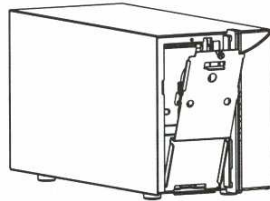

fig. 11: Removing the Metal Cover
2. Remove the metal battery retention plate to access the battery by removing the coin slot screw(s) and sliding the plate up (see fig. 11).